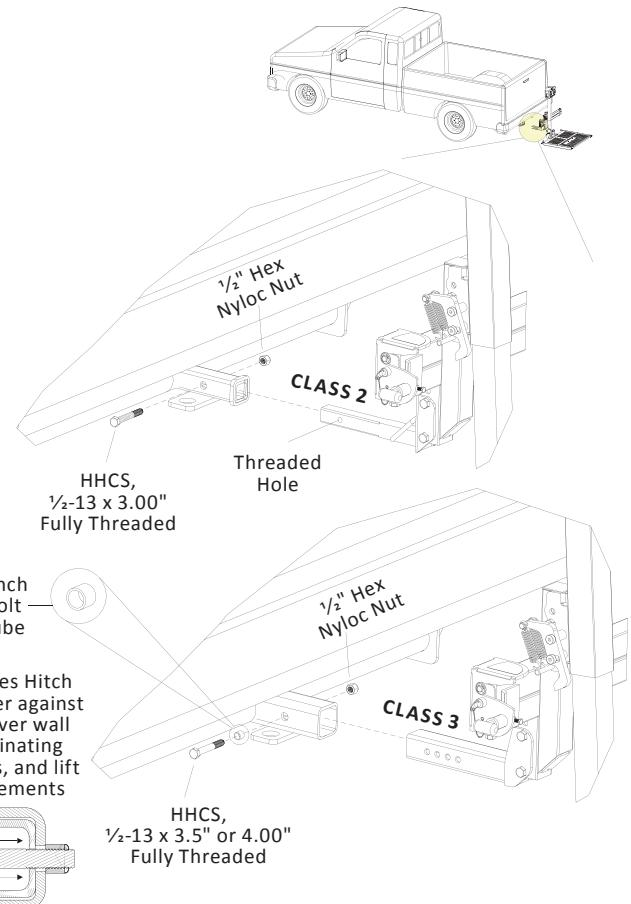

Figure 4-10
3. Insert the hitch adapter into the receiver on the vehicle's hitch. Secure the adapter according to the hitch class. *See Figure 4-10.*